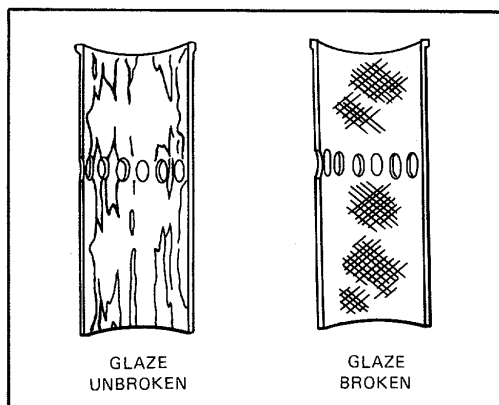

Figure 3. Glazed Surface of Cylinder Liner
1. To break the glaze (Fig. 3) due to the rubbing action of the piston rings after long periods of operation. (Unless this glaze is removed, the time required to seat new piston rings will be lengthened.)